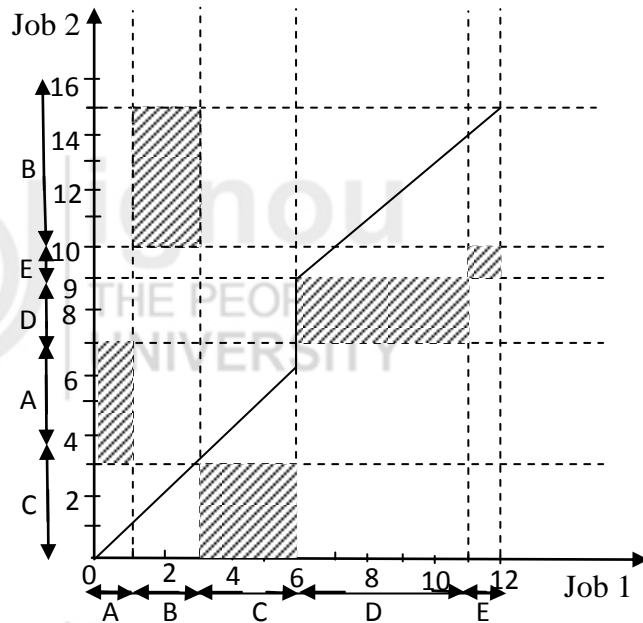

Fig. 7.2
- E3)** Let us draw a set of axes at right angle to each other where the x-axis represents the time of job 1 on different machines while job 2 remains idle and the y-axis represents the processing time of job 2 while job 1 remains idle. We draw vertical/horizontal lines through processing times as shown in the Fig. 7.2 and shade the common area for each machine.